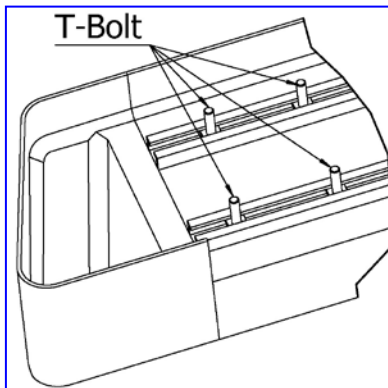

Fig 11. Slide 6mm T-Bolts into the bottom Channel
8	Once all (3) Brackets have been installed, Select a Running Board. Slide (3) 6mm T-Bolts into each bottom channel (Figure 11).Carefully position the Running Board onto the Mounting Brackets. Attach the Running Board to the Mounting Brackets with (6) 6mm T-bolts,(6)6mm flat washers and (6)6mm lock nuts, (Figure 12). Do not tighten hardware at this time.